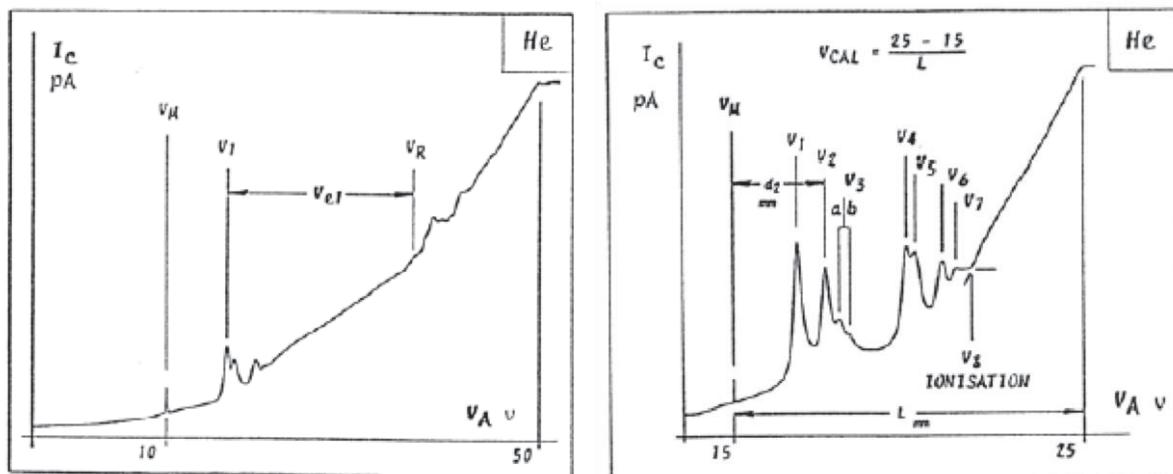

Figure 3. Typical graphs for the full range scan and a zoom in the first peak set where we can see the energies needed for energy transitions.
- Q: Using Excel, plot the collector current (y-axis) against accelerating voltage (x-axis) for all the requested graphs, like the graphs figure 3 and figure 4.